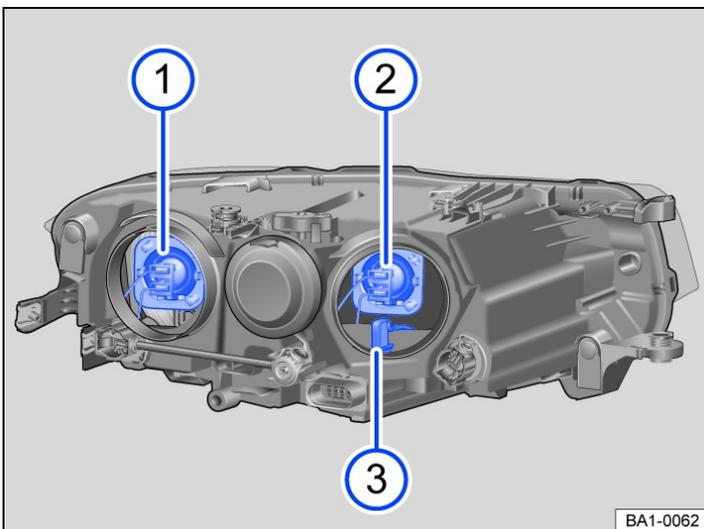

Fig. 2 In the engine compartment: changing bulbs in the left headlight.
4. Dipped beam: press the bulb down at the base until it is released \rightarrow Fig. 2 ①. Pull out the bulb to the rear.
Main beam: press the bulb up at the base until it is released \rightarrow Fig. 2 ②. Pull out the bulb to the rear.
Turn signal: pull the bulb holder with the bulb out to the rear \rightarrow Fig. 2 ③.